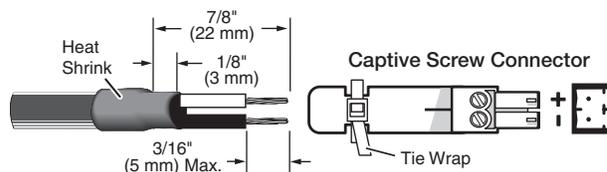

Figure 5. Wiring the Power Connector (SW2 and SW4 Only)
- Power supply voltage polarity is critical. Incorrect voltage polarity can damage the power supply and the unit. The ridges on the side of the cord (see figure 5) identify the power cord negative lead.